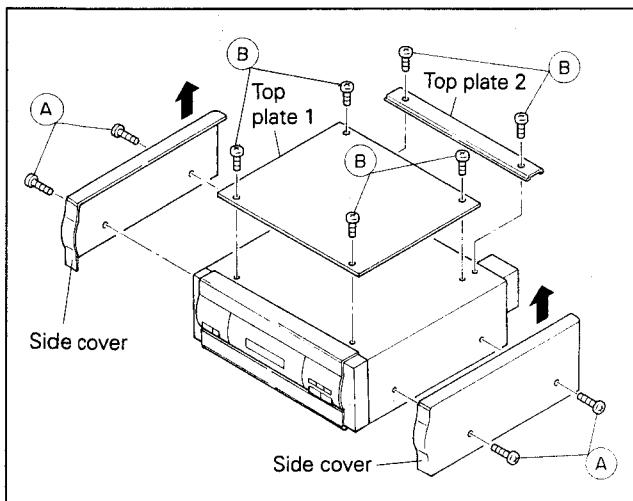

Fig. 1-1A Upper cover 1
1. Remove six screws (B).
2. Remove four screws (A).
4. Raise the side covers by the bottom in the direction of the arrow while removing them respectively. (Fig. 1-1A)